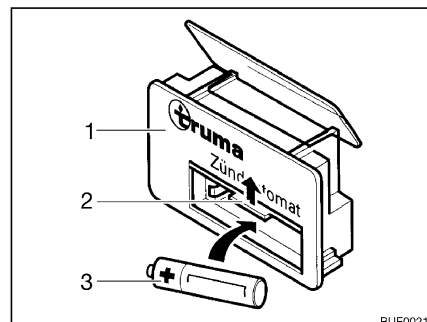

Fig. 56 Automatic ignition
- Push battery chamber cover (Fig. 56,2) on the automatic ignition (Fig. 56,1) upward.
- Insert a new battery (Fig. 56,3) of the same type, correctly aligned (+/-), into the battery chamber of the automatic ignition. Only use temperature resistant (+70 °C) and leak-proof Mignon batteries.